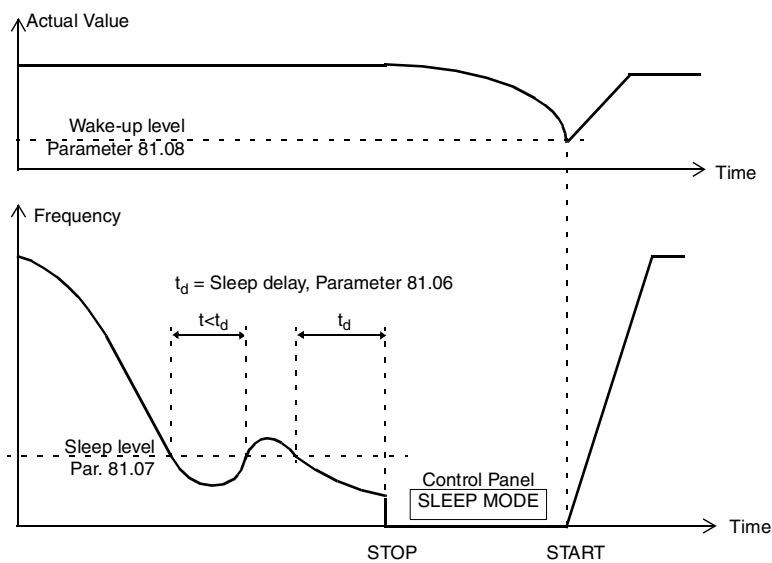

Figure 6-20 Operation of the Sleep function.
**81.06 SLEEP DELAY** This parameter sets the delay for the Sleep function (see Figure 6-20). If the ACS 600 output frequency is below a set level (81.07 SLEEP LEVEL) longer than the Sleep Delay, the ACS 600 is stopped, and the Control Panel shows the warning message “SLEEP MODE”.
**81.07 SLEEP LEVEL** This parameter sets the frequency limit for the Sleep function (See Figure 6-20). When the ACS 600 output frequency falls below the Sleep Level the Sleep Delay counter is started. When the ACS 600 output frequency rises above the Sleep Level the Sleep Delay counter is reset.
**81.08 WAKE UP LEVEL** This Parameter sets the process actual value limit for the Sleep function (See Figure 6-20). When the actual value falls below the limit, the Sleep function is interrupted.